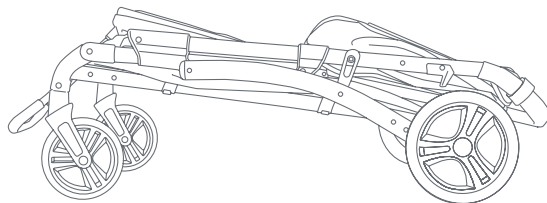

Fig. 8d
- For a compact fold ensure all fabric parts are tucked in neatly (Fig. 8d).